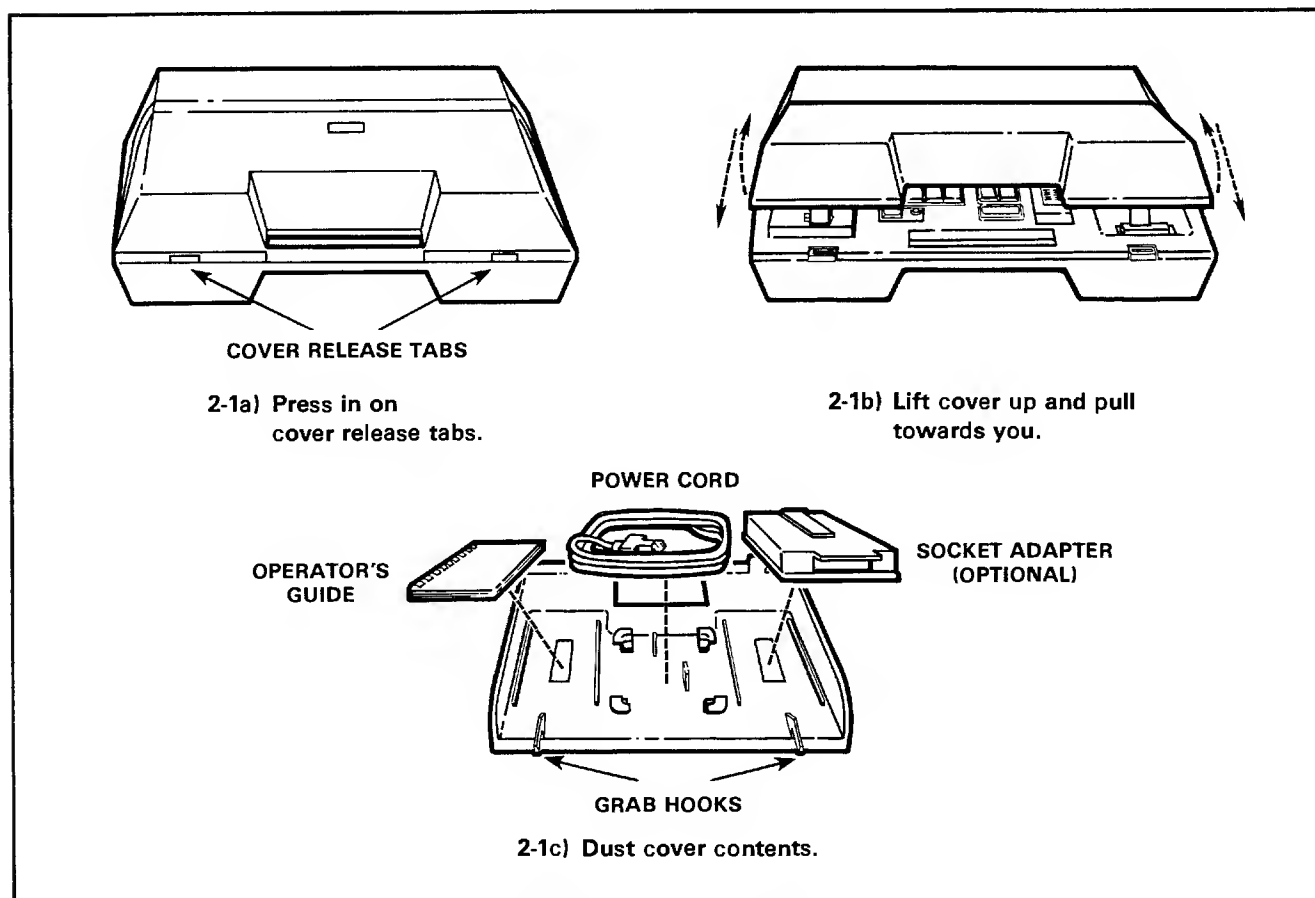

Figure 2-1. Dust Cover Removal
To gain access to your 22A, and its component pieces, you must first remove the unit's protective dust cover. To do this, refer to figure 2-1 and follow these instructions:
4. Lay the dust cover upside down on a flat surface. As shown in figure 2-1, the dust cover should contain an Operator Guide (12-990-0003), Power Cord (416-0010 or 416-1577) and socket adapter (optional).